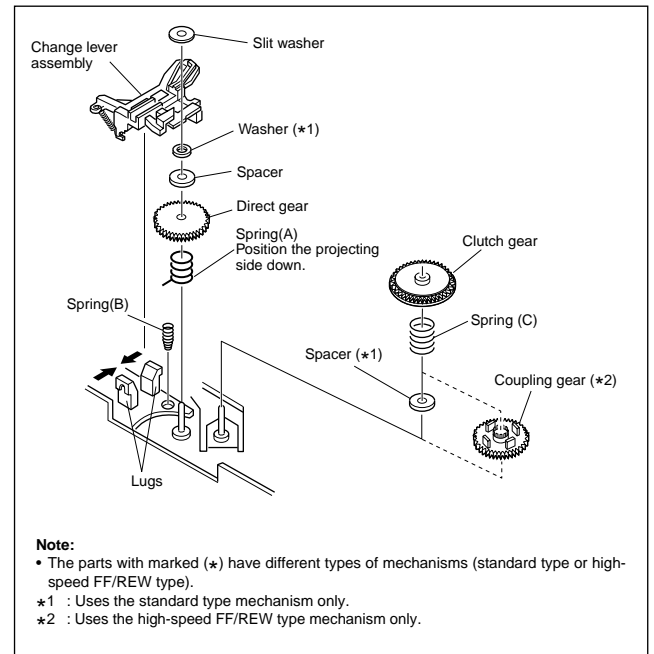

Fig. 2-2-12a
Take care so as not to lose the washer and spring. (See Fig.2-2-12a.)
- (1) Install the clutch gear, spring (A), spring (C), direct gear, spacer and others to the individual shafts of the main deck, and finally the slit washer. (See Fig.2-2-12a.)